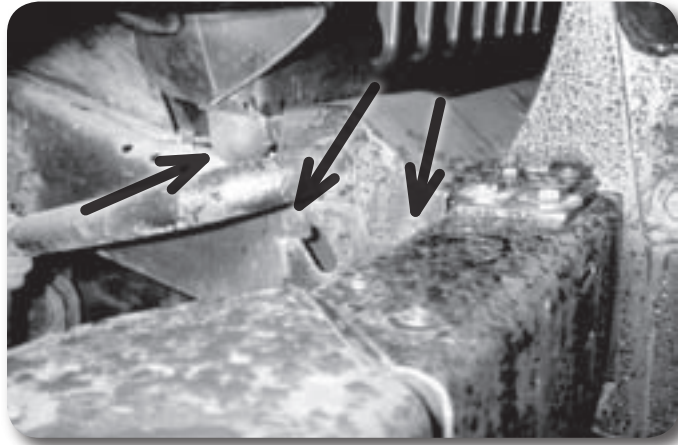

Figure 1
3. Remove the four bolts attaching the front plastic cover to the frame and remove the cover from the frame (Figure 1). Save cover and hardware.
38. Remove the urethane body support bumpers from the core support. (Fig. 1)